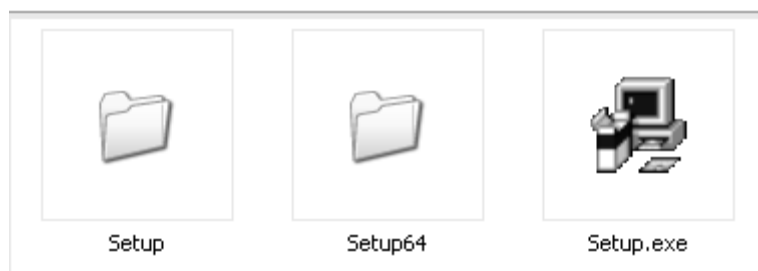

Fig. 2
3. Double-click on **Setup.exe** (see Fig. 2) to install the PC programme.